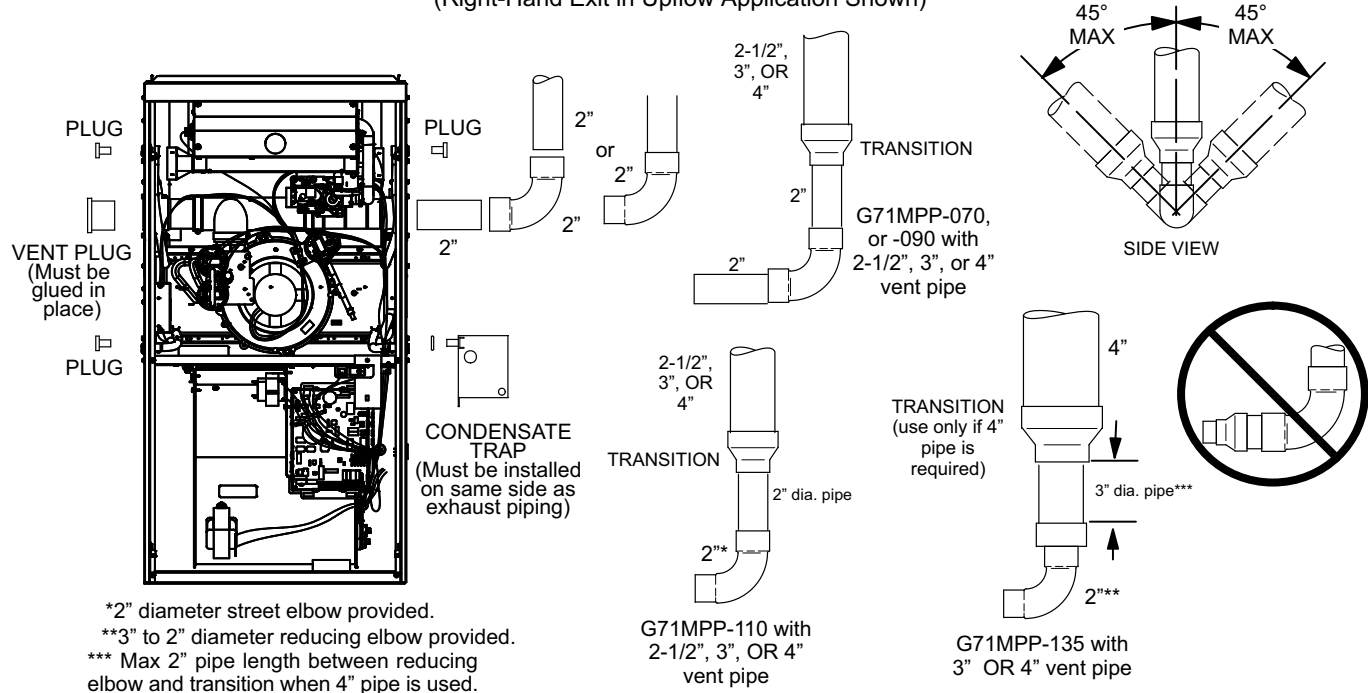

FIGURE 19
## Exhaust Piping (Figures 19 and 20)
*NOTE - A 2" diameter street ell is located on the blower deck of 60C-110 units. Street ell **must be glued** with ABS solvent cement directly into the unit flue collar. See figure 19. A 3" to 2" reducing ell is located on the blower deck of the 60D-135 units. **In upflow or downflow applications, the reducing ell must be glued with ABS solvent cement directly into the unit flue collar.***